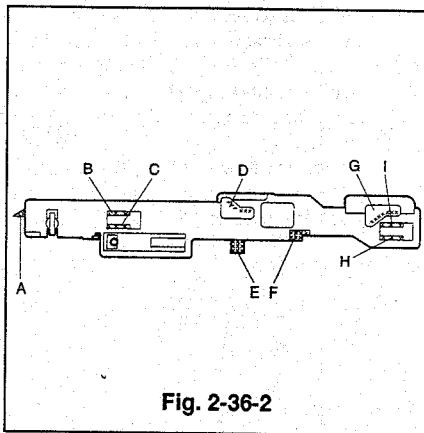

Fig. 2-36-2
- Apply specified grease to the area (A-I) shown in Fig. 2-36-2 of the new cam plate-C.